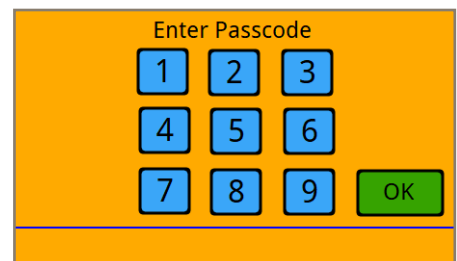

Figure 56
9. Once the tubing is correctly inserted into the Phastite® connector and no tubemarker lines are visible plug the power lead into a mains socket and switch on, the controller screen will turn on automatically. The operator will be prompted to enter the 4-digit passcode assigned to them upon successful completion of Parker SBEx training (Figure 56).